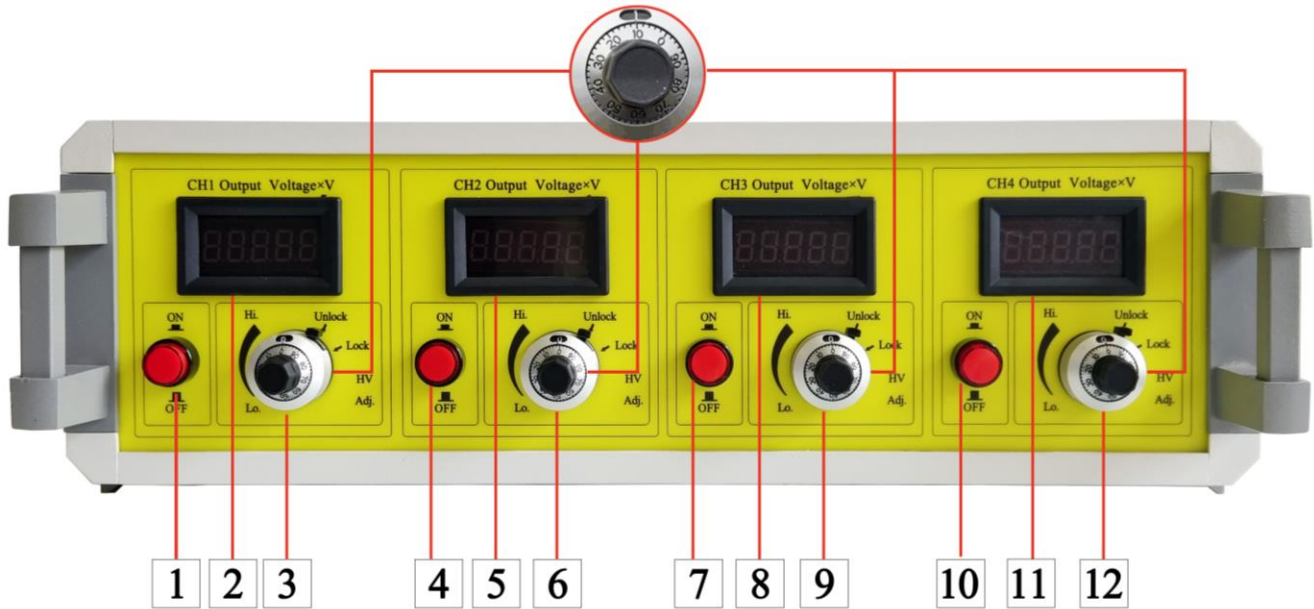

Figure 2. Front Panel
3. CH1 HV adjustment: 10-turn potentiometer for adjusting output voltage. Rotate it clockwise to increase the output voltage, and the potentiometer resistance = the corresponding scale  $\times 20\Omega + N \times 2k\Omega$ . The number of turns (N) is shown in the frame above the scale. For example, as Figure 2 shows, when the scale is 10, and the frame above the scale shows 1 (2k $\Omega$ ), then the resistance =  $10 \times 20\Omega + 1 \times 2k\Omega = 2.2k\Omega$ , and the like.
6. CH2 HV adjustment: 10-turn potentiometer for adjusting output voltage. Rotate it clockwise to increase the output voltage, and the potentiometer resistance = the corresponding scale  $\times 20\Omega + N \times 2k\Omega$ . The number of turns (N) is shown in the frame above the scale. For example, as Figure 2 shows, when the scale is 10, and the frame above the scale shows 1 (2k $\Omega$ ), then the resistance =  $10 \times 20\Omega + 1 \times 2k\Omega = 2.2k\Omega$ , and the like.
9. CH3 HV adjustment: 10-turn potentiometer for adjusting output voltage. Rotate it clockwise to increase the output voltage, and the potentiometer resistance = the corresponding scale  $\times 20\Omega + N \times 2k\Omega$ . The number of turns (N) is shown in the frame above the scale. For example, as Figure 2 shows, when the scale is 10, and the frame above
- 12. CH4 HV adjustment: 10-turn potentiometer for adjusting output voltage. Rotate it clockwise to increase the output voltage, and the potentiometer resistance = the corresponding scale × 20Ω+N × 2kΩ. The number of turns (N) is shown in the frame above the scale. For example, as Figure 2 shows, when the scale is 10, and the frame above the scale shows 1 (2kΩ), then the resistance = 10×20Ω+1×2kΩ=2.2kΩ, and the like.